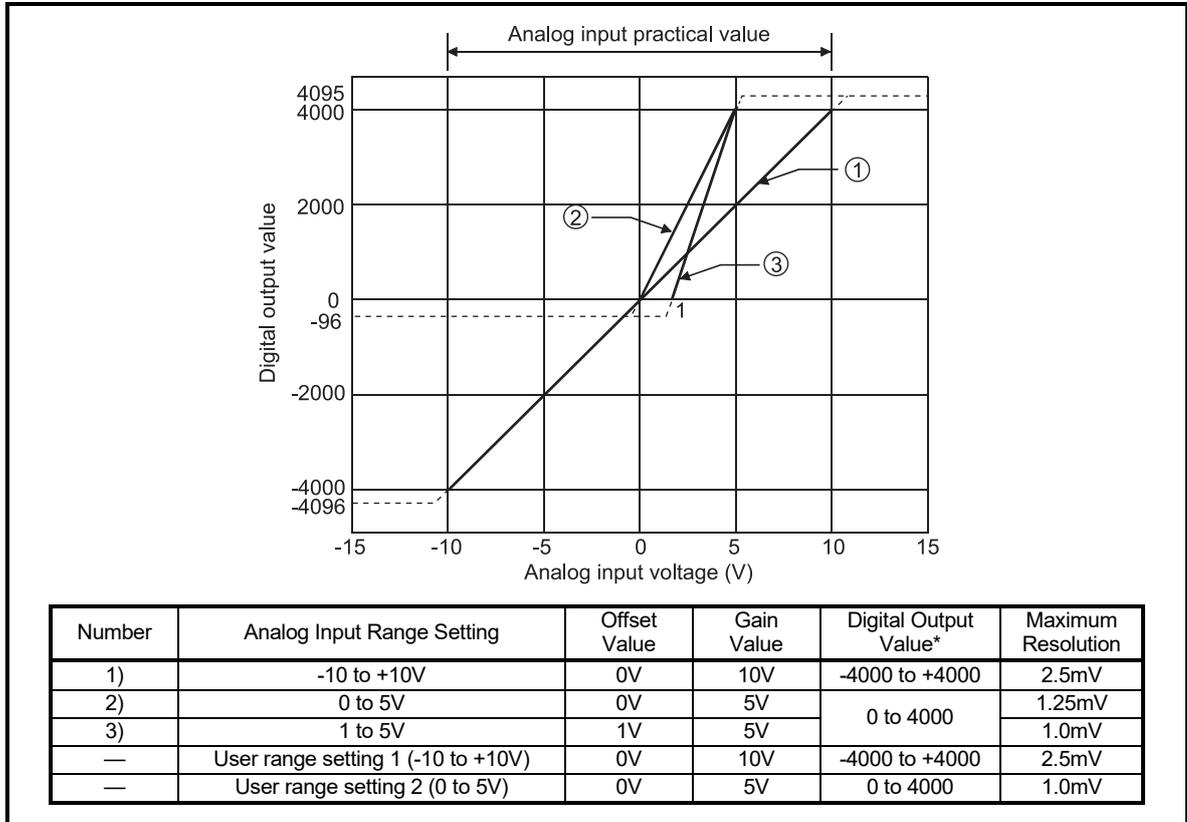

Fig. 3.1 Voltage Input Characteristic
(1) Do not input more than $\pm 15V$. The element may be damaged.
(2) If the analog input provided corresponds to the digital output value* beyond its range, the digital output value is fixed to the maximum or minimum. <ul style="list-style-type: none"> • For 0 to 4000, the digital output value is within the range -96 to 4095. • For -4000 to +4000, the digital output value is within the range -4096 to +4095.
(3) Within the analog input and digital output scopes of each input range, the maximum resolution and accuracy are within the performance specification range. Outside those scopes, however, they may not fall within the performance specification range. (Avoid using the dotted line part in Fig. 3.1.)
(4) Set the offset and gain values of the user range setting within the range satisfying the following conditions. <ul style="list-style-type: none"> (a) Setting range when user range setting 1 is selected: -10 to +10V (b) Setting range when user range setting 2 is selected: 0 to 5V (c) (Gain value) > (Offset value) If you attempt to make setting outside the setting range of (a) or (b), the "RUN" LED flickers at 0.5s intervals. Set the values within the setting range. If you attempt to make setting outside the setting range of (c), the "RUN" LED flickers at 0.5s intervals. Make setting again.